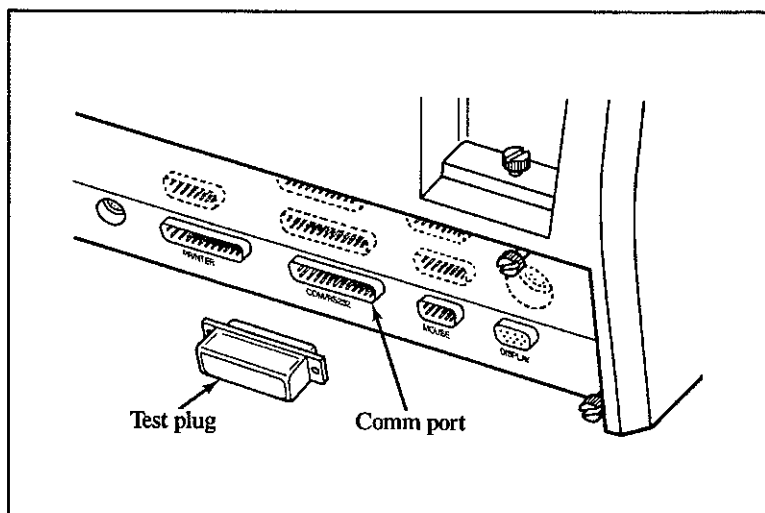

Figure 9-2. Communications Port
1. Locate the Communications port on the back of the instrument. Disconnect the cable that is connected to it. See Figure 9-2. Insert the RS-232 Test Plug into the desired port. The RS-232 Test Plug is provided in the shipping kit with the instrument.